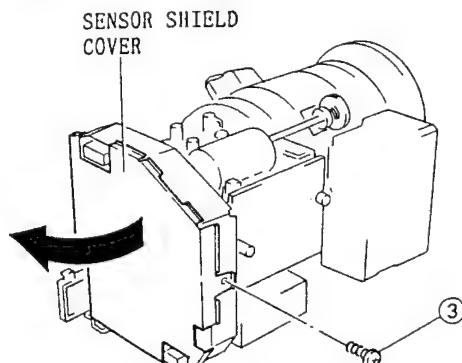

Fig. 2-27
3. Remove one (1) screw holding the sensor shield cover in the direction of the arrow. (See Fig. 2-27)